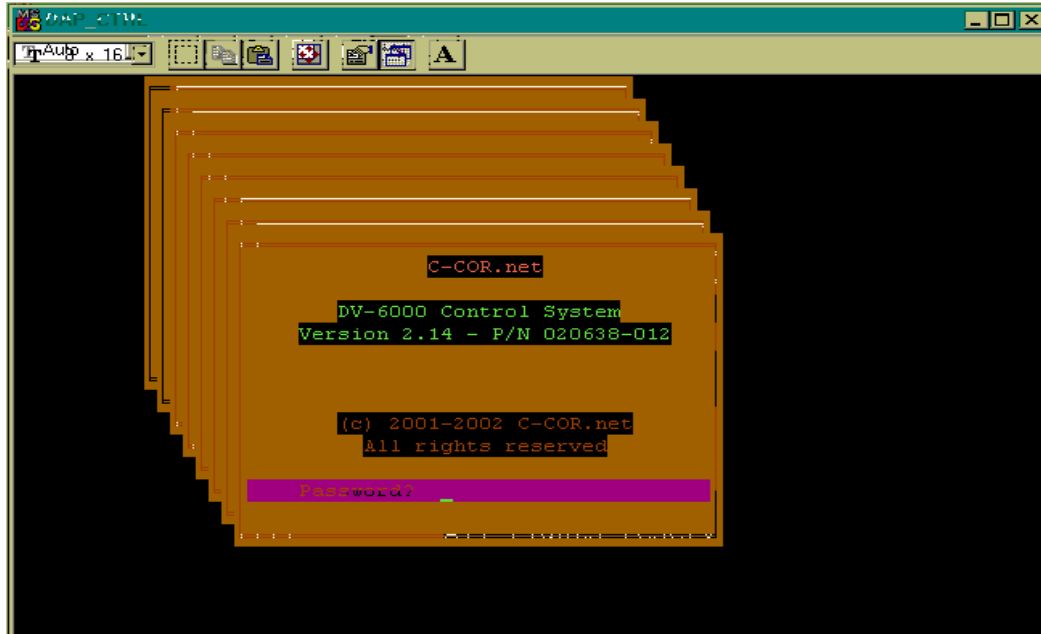

Figure DLP2-1. DAP Introduction Screen
3. If the connector cable is attached at COM1 on the PC, type **dap_ctrl <space> 1** and press **Enter**. If the connector cable is attached at COM2 on the PC, type **dap_ctrl <space> 2** and press **Enter**. The DAP introduction screen, as shown in Figure DLP2-1, is displayed.